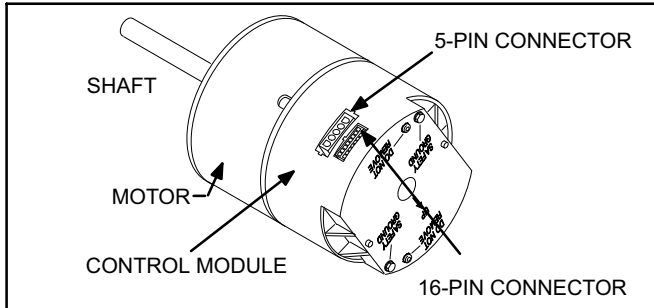

Figure 1. Module Connectors
- 4 - Unplug the 16-pin and 5-pin connectors from the motor control. See Figure 1 for location.